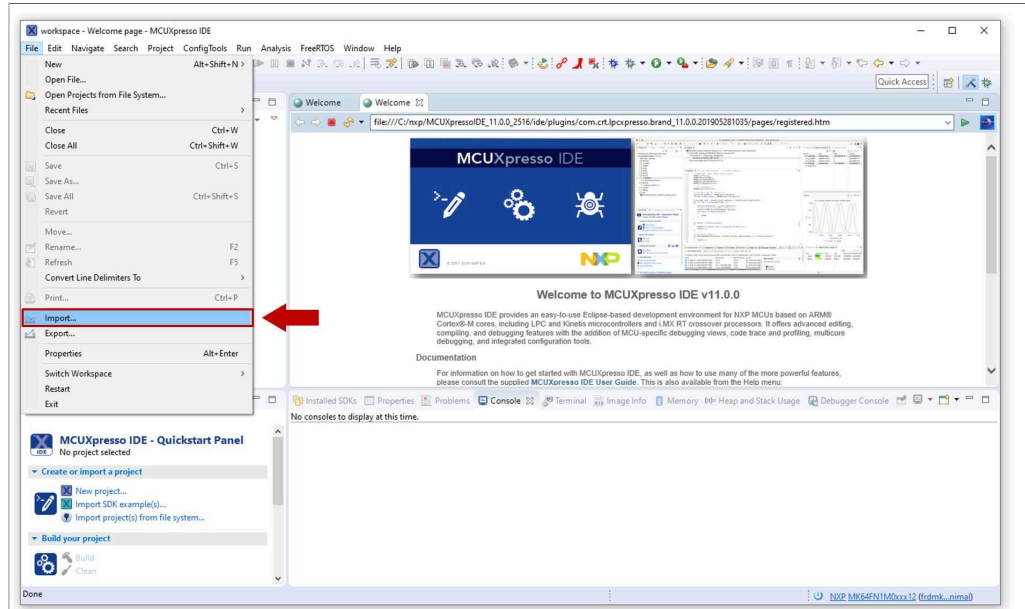

Figure 33. Import a project
1. Go to *File* → *Import* using the top bar menu as shown in Figure 33.